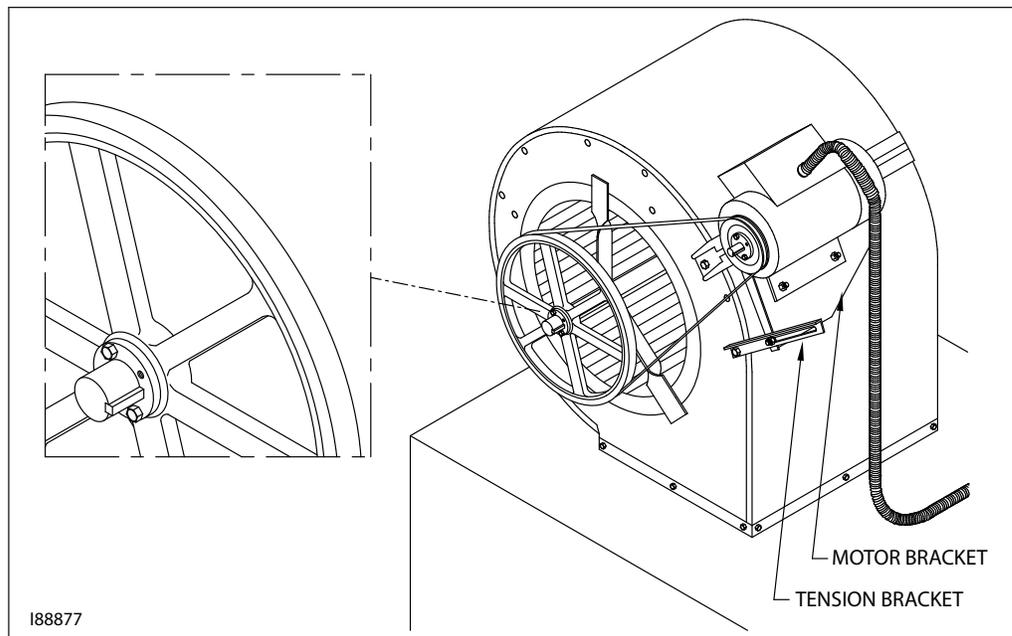

Figure 3E - Blower Assembly Installed on Furnace Cabinet
9. Tighten the belt (Refer to Figure 3E).